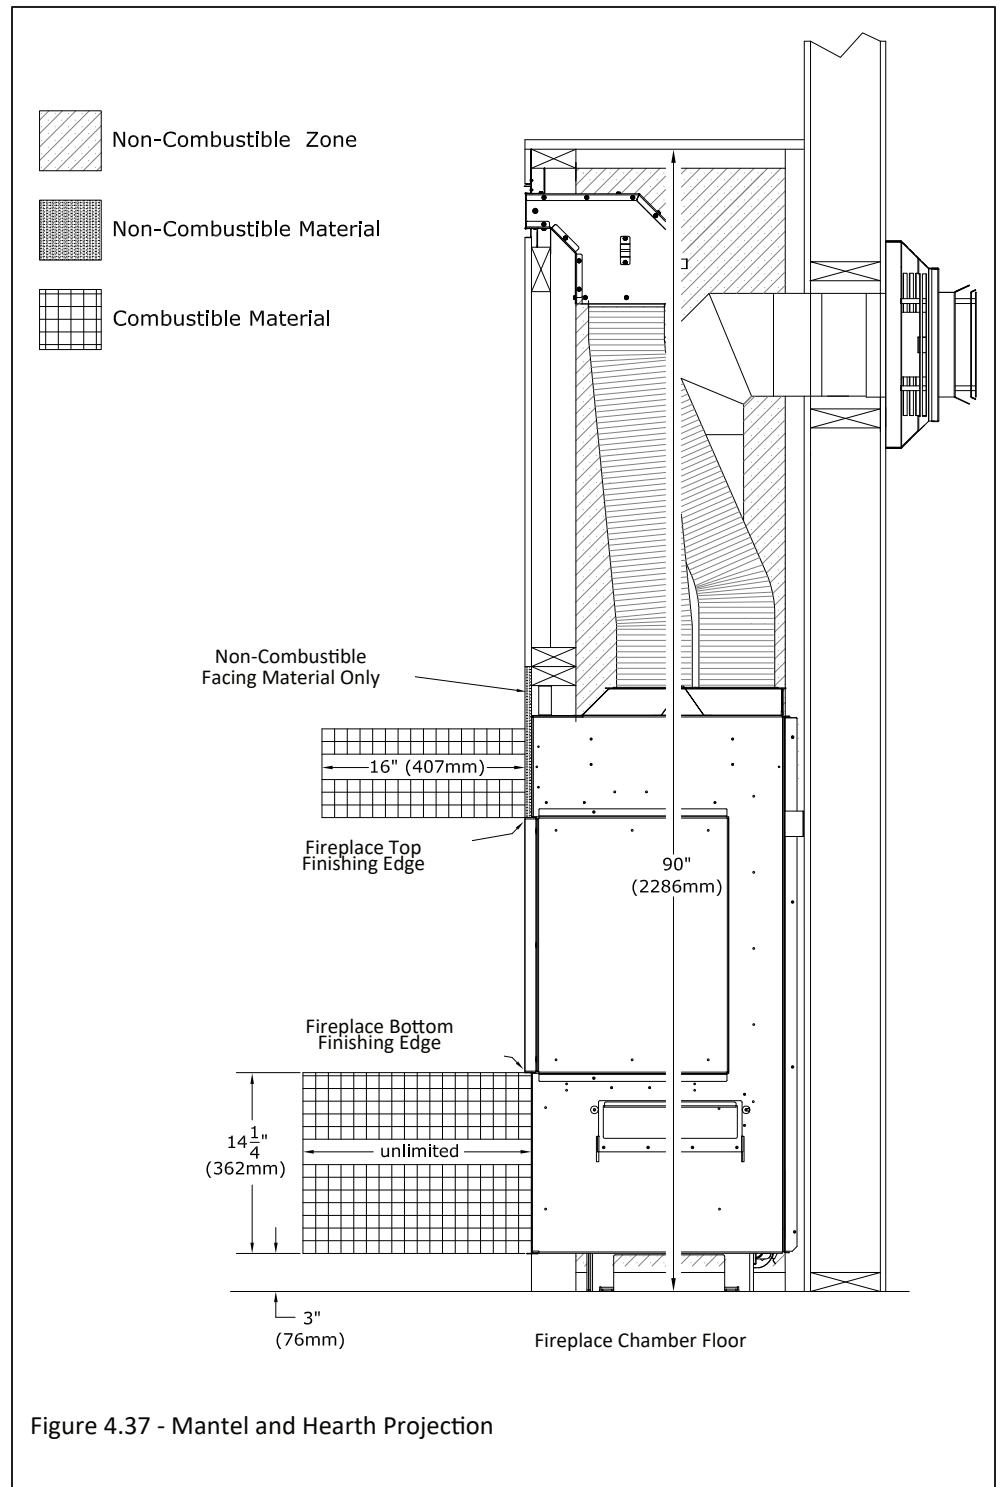

Figure 4.37 - Mantel and Hearth Projection
- **Combustible Mantel Projections:** A maximum of a 16" (406mm) mantel can be installed flush at the top finishing edge. See Figure 4.37.
- **Combustible Hearth:** Combustible hearth can have an unlimited projection. Hearth can be raised flush to the bottom finishing edge. See Figure 4.37.